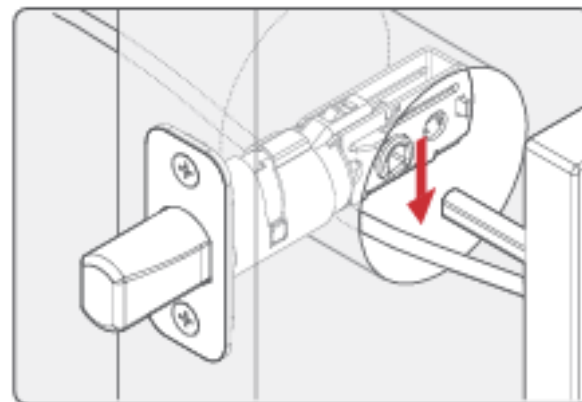

Fig. 1
- A2: Check that the lock is properly installed, and the cable is routed and stored correctly (Fig. 1).